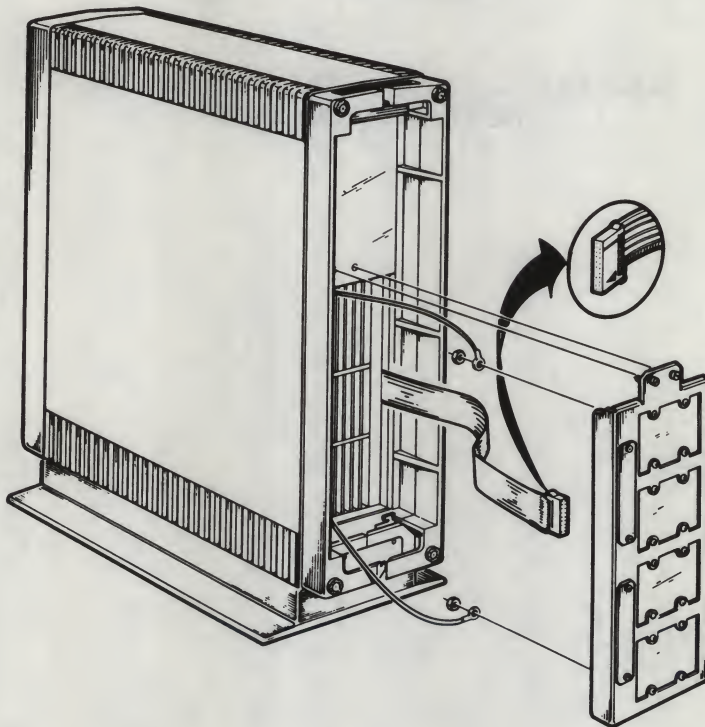

Figure 1-14 Installing the I/O Distribution Panel and Cables
- Reconnect any other ribbon cables which are present (Figure 1-14).